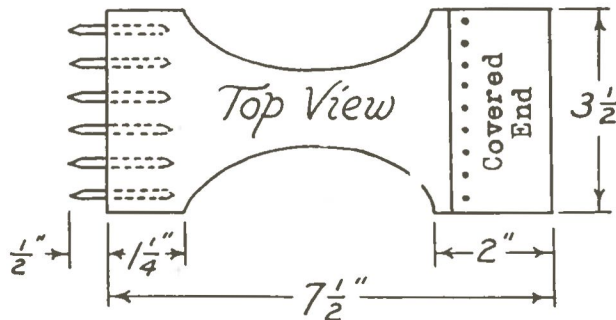

Fig. 3—Homemade webbing stretcher.
2. Webbing stretcher—buy or make (optional). Make from ½" hard wood as shown in Fig. 3. Drive ten-penny nails in one end. Cut off heads and file to tapering points. Cover the other end with felt, rubber, or leather.